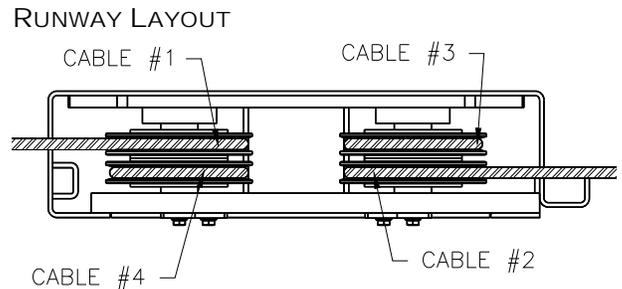

Fig 6 – Power Runway 4-Stack (Rear View)
- 2) Unpack lift. Remove all packaging from Power Runway (power runway has four cable sheaves at rear end) and pull threaded cable ends out. Make sure the cables are in the proper sheaves at the 4-stack, **Fig 6**.
- 12) From the rear, route cable #1 from the top of the left sheave stack through the access hole and up out the left end of the rear cross beam. Repeat for cable #2 from the bottom of the right rear sheave stack through the access hole and up out the right rear of the rear cross beam, **Fig 6 & 7**.